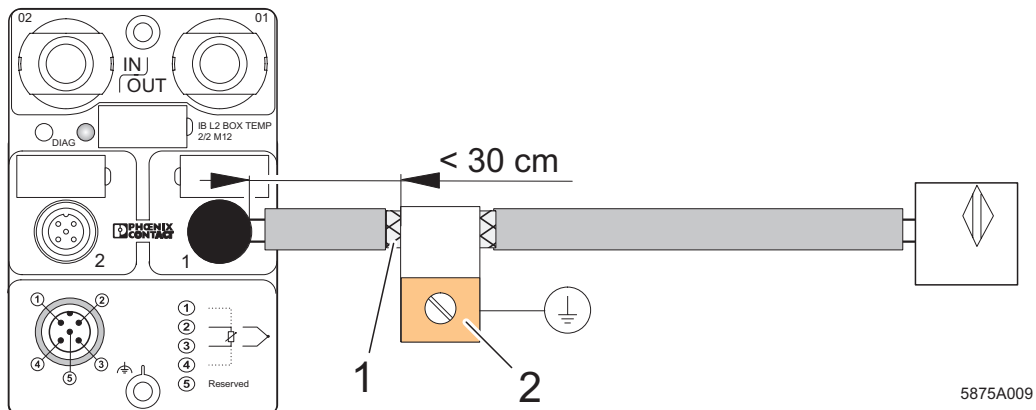

Figure 9 Grounding signal cables using a shield clamp
You can also connect the shield by using **shield terminal blocks (SK)**, or **shield clamps**, from Phoenix Contact. This is shown in Figure 9.